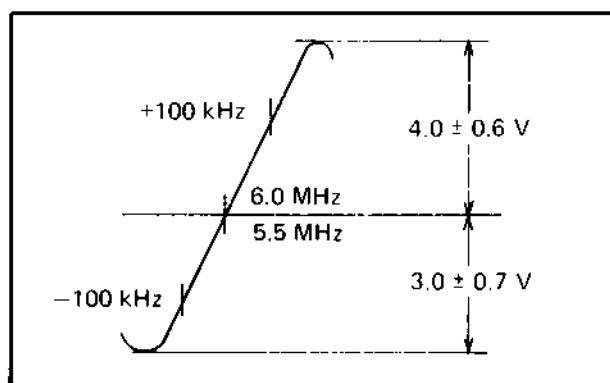

Fig. 5-52
4. Adjust the core of T502 so that the center of the "S" curve comes to 6.0 MHz (HR-3660EK), 5.5 MHz (HR-3660EG) as shown in Fig. 5-52.